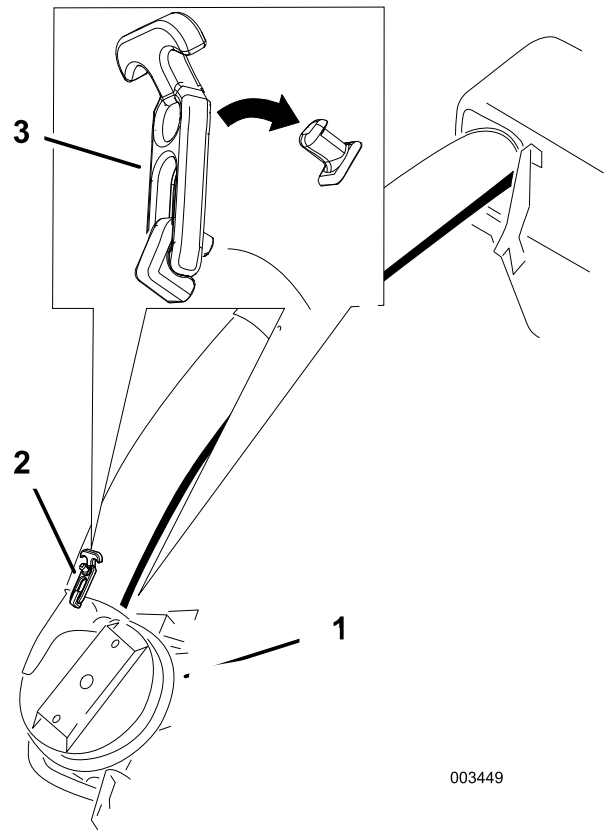

**Figure 52**
8. Install the lower tube into the upper tube (Figure 52).